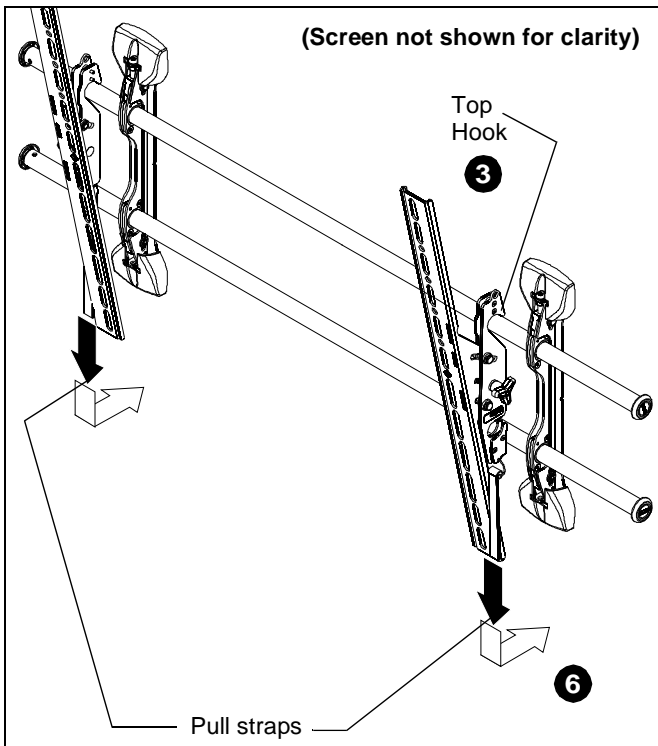

Figure 9
3. Hang top hook of interface brackets onto the top bar of the mount. (See Figure 9)
6. Pull downward on the pull straps and swing inward toward wall, latching interface brackets to lower bar and locking bottom of screen to the mount. (See Figure 9)